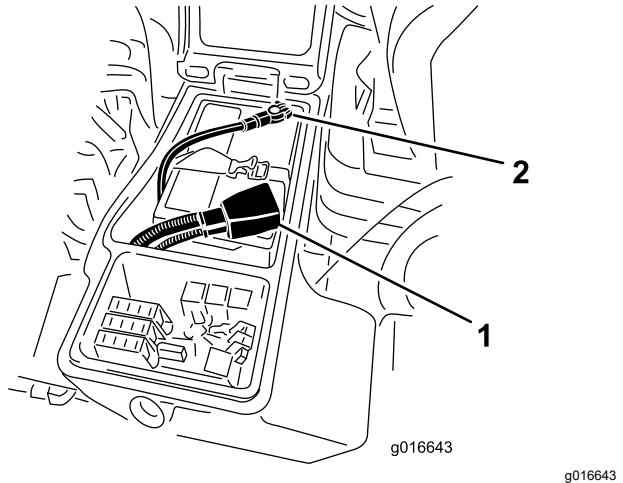

Figure 123
1. Install the positive battery cable (red) to the positive (+) battery post (Figure 123).